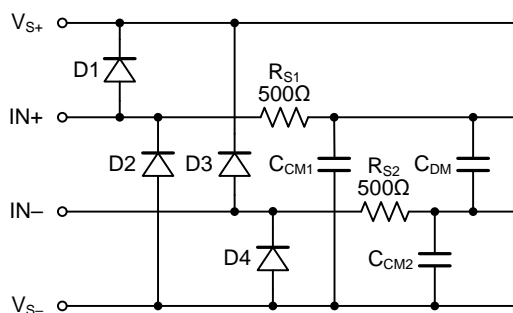

Figure 1. Input EMI Filter and Clamp Circuit
Figure 1 shows the input EMI filter and clamp circuit. The LTC331/LTC393 comparators have internal ESD protection diodes (D1, D2, D3, and D4) that are connected between the inputs and each supply rail. These diodes protect the input transistors in the event of electrostatic discharge and are reverse biased during normal operation. This protection scheme allows voltages as high as approximately 300mV beyond the rails to be applied at the input of either terminal without causing permanent damage. See the table of Absolute Maximum Ratings for more information.
Infrared (IR) communication is inherently immune to RF interference as long as there is a line-of-sight path between the transmitter and the receiver. It is also one of the lowest cost communication schemes. This makes it a good choice for implementing wireless communications in applications such as utility metering. A common system topology to extend battery life is to use a power efficient IR receiver analog front end (AFE) that is always on and wakes up the host only when there is a valid IR signal detected as shown in Figure 1.
Figure 1 shows the IR receiver system block diagram. The host MCU is normally in the shutdown mode (during which the quiescent current is less than 1 μ A) except when data is being transferred.